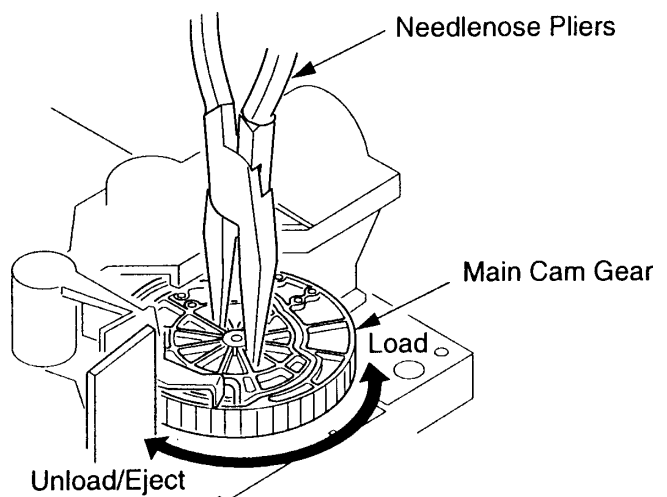

Fig. 11 - Manual Loading/Unloading of the Mechanism
Manual Loading/Unloading of the Mechanism (Figs. 11, 12, 13)
1. Turn the main cam gear counterclockwise (for loading) or clockwise (for unloading) using needlenose pliers (Fig. 11).
1. Rotate the main cam gear using needle-nose pliers so that the pinch roller is separated from the shaft of the capstan rotor unit. Refer to Fig. 11 for needle-nose pliers positioning.
2. Perform steps three (3) through nine (9) of Manual Method (1) procedure above.